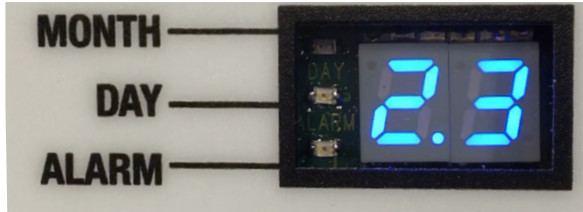

fig. 1
- Software version is displayed (fig. 1)